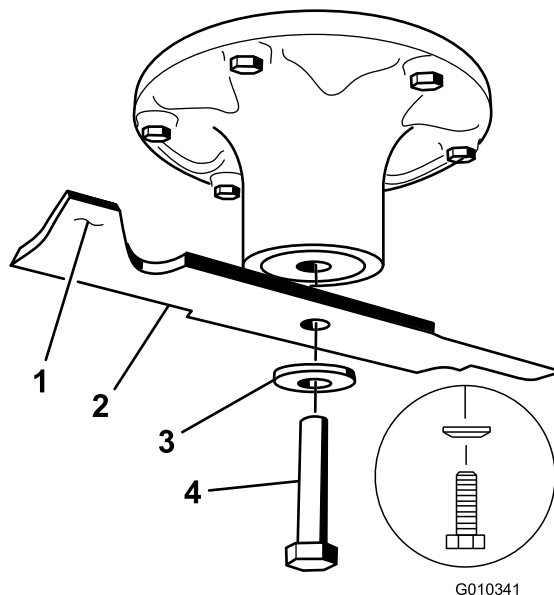

Figure 67
2. Remove the blade bolt, curved washer, and blade from the spindle shaft (Figure 67).
1. Install the blade onto the spindle shaft (Figure 67).
2. Install the curved washer (cupped side toward the blade) and the blade bolt (Figure 67).